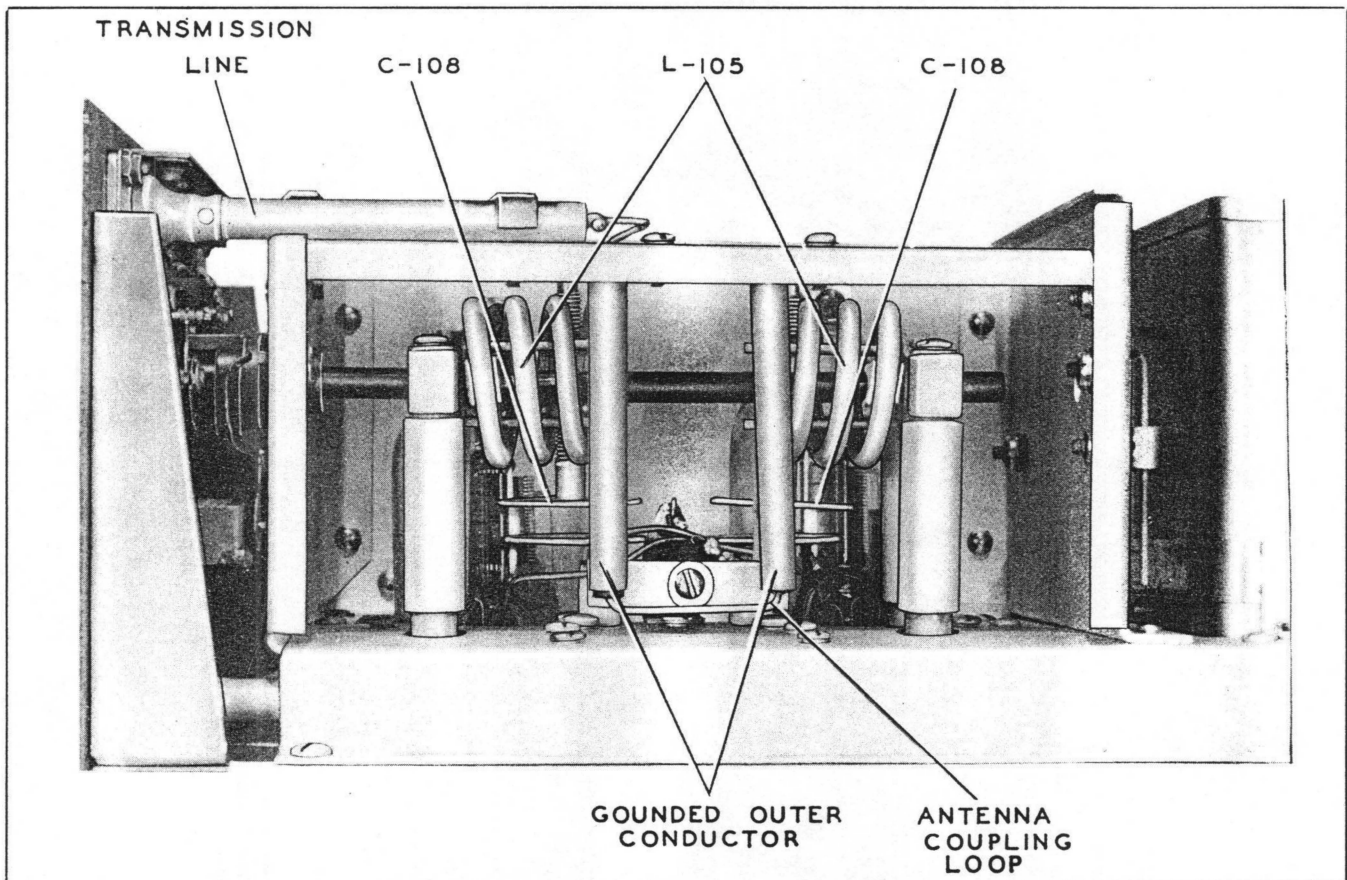

Figure 4-2. Radio Frequency Amplifier AM-18/APT—Internal View of R-F Section
d. NEUTRALIZING ADJUSTMENT. (See figure 4-2.)—This circuit is neutralized by two adjustable capacitors C-108 that feed back a small portion of the r-f signal 180 degrees out of phase to the opposite grids of the amplifier tubes. These capacitors form a bridge circuit that effectively prevents the self oscillation normally caused by the grid-to-plate interelectrode capacity of the tubes. The neutralizing capacitors each consist of two small metal discs. The fixed plate of each capacitor is supported by an isolantite standoff insulator. The adjustable plates are supported by threaded shafts that turn in tapped holes in the main coil support member. The shafts are slotted to permit screw driver adjustment, and a lock-nut is provided for locking them in place.
f. ANTENNA COUPLING. (See figure 4-2.)—The r-f output of the amplifier stage is coupled to the antenna coaxial transmission line by a single-turn loop L-106 mounted close to a similar U-shaped loop at the